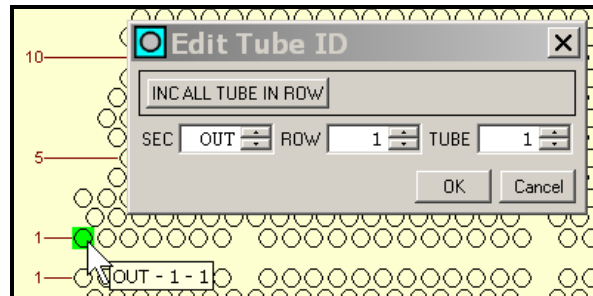
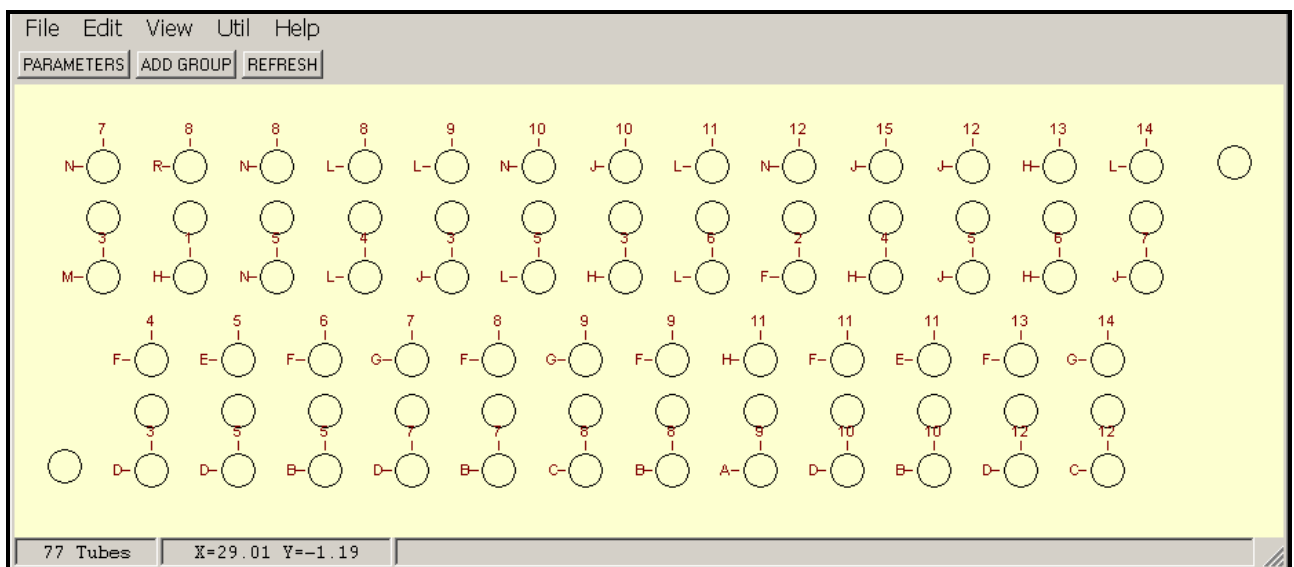

Figure 50. Using Popup | Edit Tube ID
Figure 51. Example of Tube Identification for Thimble Tubes (Edit Tube ID)
- ❑ **Popup | Edit Tube ID:** This function is used to assign a different tube identification to a given tube. Tube identification is usually in the format of *SEC-ROW-COL*. For example in Figure 50, the cursor is pointing to a tube with a tube identification of *OUT-1-1*. If the **Sec Name** field on the **Parameters** tab of the main **Parameters** dialog is left blank, then tube identifications will be in the format *ROW-COL*. To assign a different tube identification for a given tube, click **Edit Tube ID** on the **Popup** menu. The **Edit Tube ID** dialog shown in Figure 50 appears. Click on the tube you wish to re-identity. A green cursor box appears around the tube. Next, click or right-click in the **SEC**, **ROW**, and **TUBE** fields as necessary to *dial-in* the new **Tube ID**. Continue this process until all the tubes of interest have been re-identified. This function, though rarely used, is extremely valuable in setting the **Tube IDs** of seal-table thimble tubes as shown in the example in Figure 51.
The **INC ALL TUBE IN ROW** button on the **Edit Tube ID** dialog shown in Figure 50 simply increments all the tube (col) values in the selected row. The button has no effect on the sec or row values in the selected row.